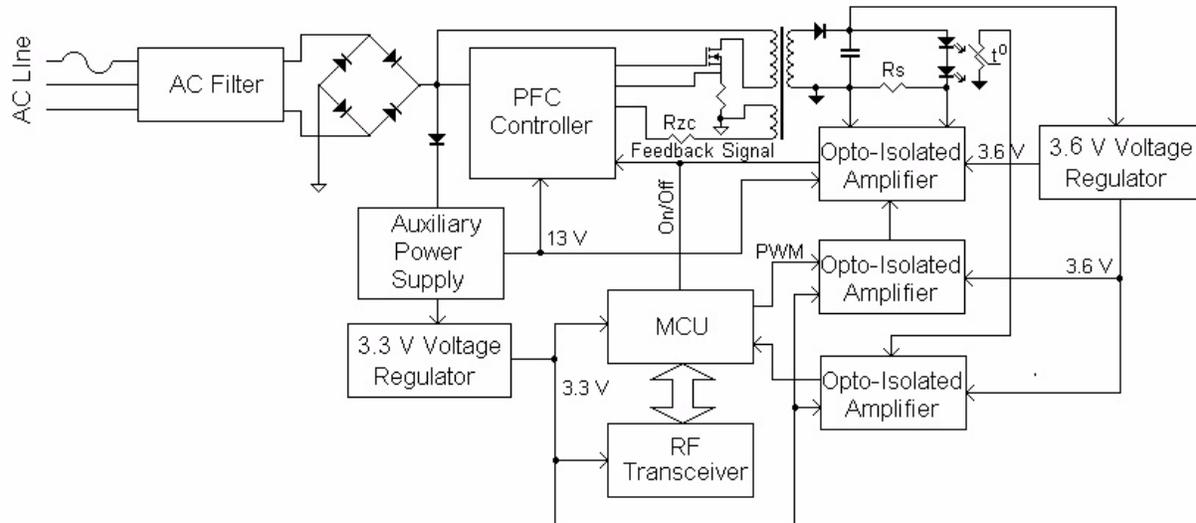

Figure 2. LED Driver with ZAURA Control Demonstration Board Block Diagram
The dimensions of the LED Driver Base Power Board are 7.4" (L) x 1.4" (W) x 1.2" (H). A block diagram of the Board is shown in Figure 2.